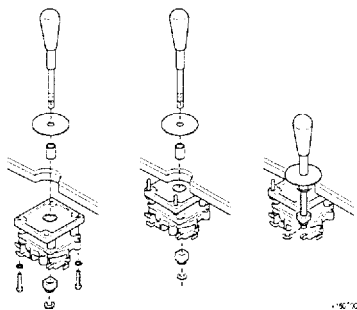

Figure 5: Joystick Installation
20. Install the joysticks on the control panel as shown in figure 5.